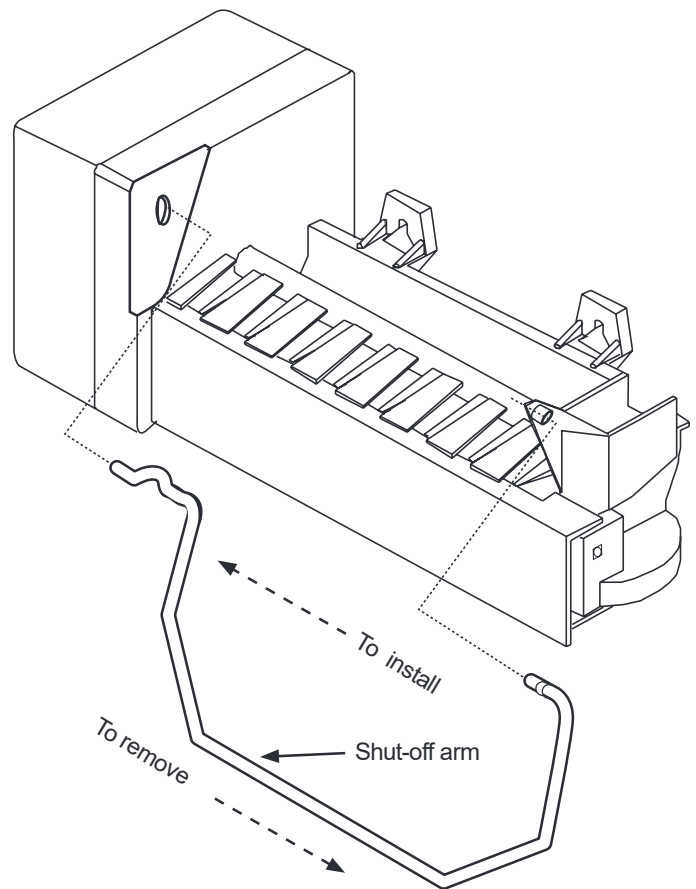

Figure 10-20. —Shut-off arm removal and installation.
11. Remove the shut-off arm. See Figure 10-20,